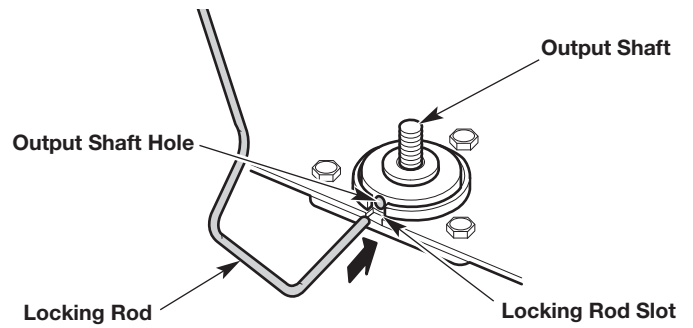

Fig. 23
1. Align the output shaft hole with the locking rod slot. Insert the locking rod through the locking rod slot and into the output shaft hole (Fig. 23).
4. Align the output shaft hole with the locking rod slot. Insert the locking rod through the locking rod slot and into the output shaft hole (Fig. 23).